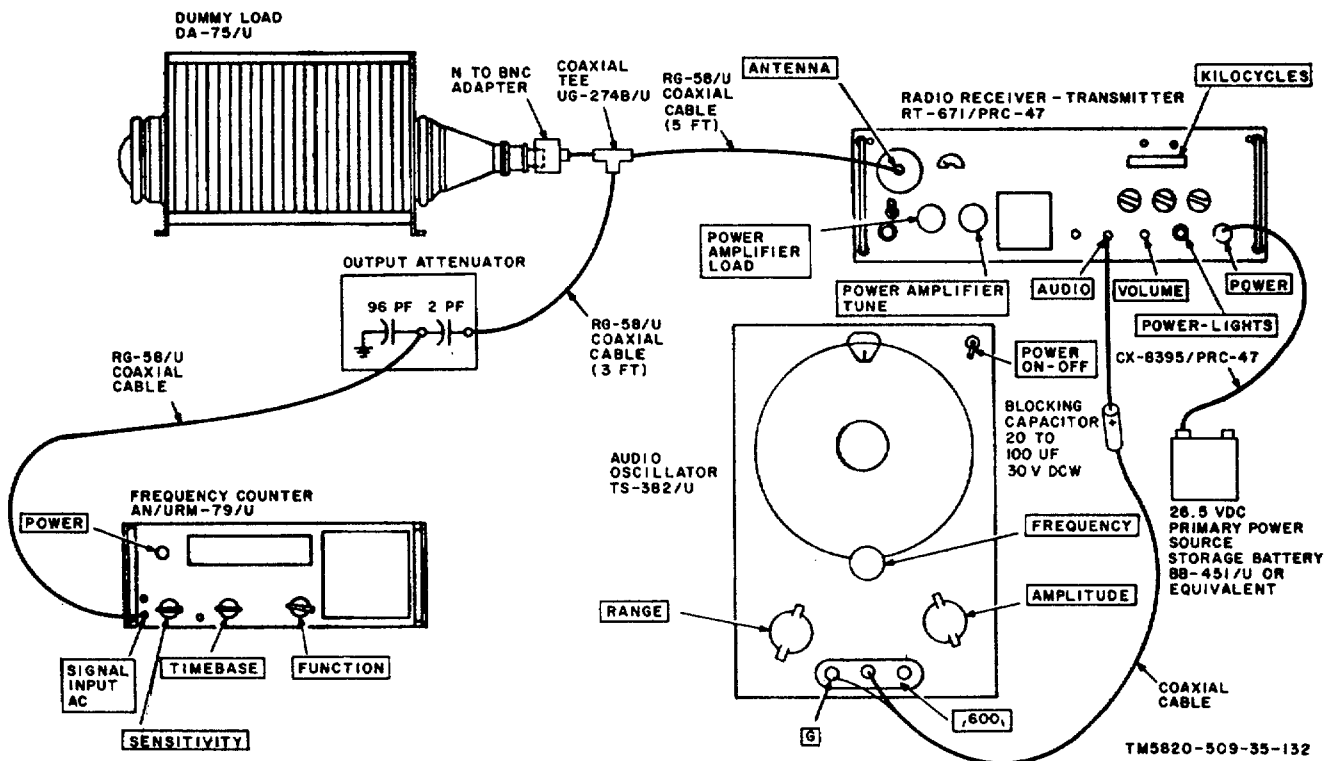

Figure 4-5. Transmitter Frequency Stability Test, Equipment Setup
(fig. 4-5)
- (1) Oscillator TS-382/U
- (2) Dummy Load DA-75/U
- (3) Frequency Counter AN/URM-79/U
- (4) Output attenuator (fig. 4-5)
- (5) Blocking capacitor (fig 4-5)
(1) Connect the test equipment to Radio Receiver-Transmitter RT-671/PRC-47 as shown in figure 4-5.
(2) Connect the primary power source to the receiver-transmitter.
(3) Turn on the test equipment and place the POWER-LIGHTS switch on RT-671/PRC-47 to POWER ON. Permit the equipment to stabilize at least 5 minutes before beginning the procedures shown in the chart below.